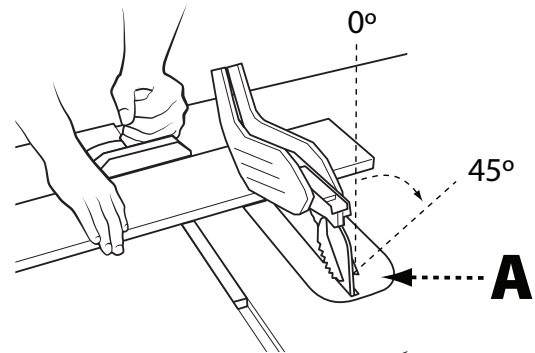

FIGURE 24
Bevel crosscutting is the same as crosscutting except the bevel angle (A) is set to an angle other than 90°. When making a bevel crosscut, place the miter gauge in the right miter slot so that the blade is tilted away from the gauge and hands. See Figure 24.